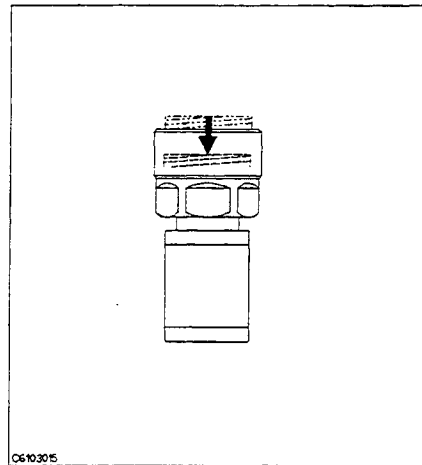

Figure 3-9.
13. Verify that the connector sleeve is retracted fully as shown in Figure 3-9.